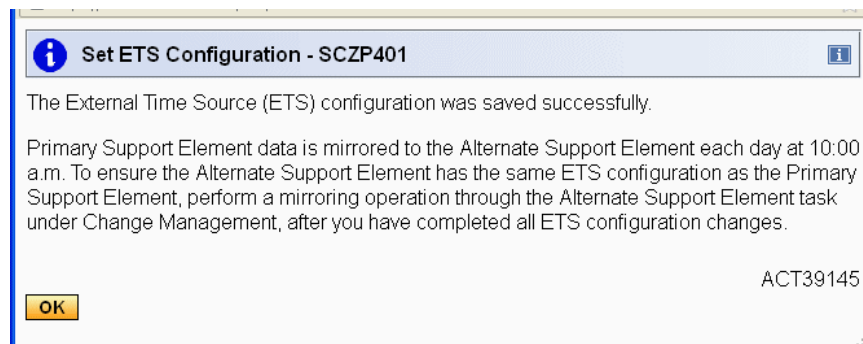

Figure 1-37 Message ACT39145 - ETS configuration saved successfully
11. There might be good reasons for such configurations. However, clicking **Yes** saves the NTP server configuration on the Support Element and the configuration takes effect. A message window displays (Figure 1-37).